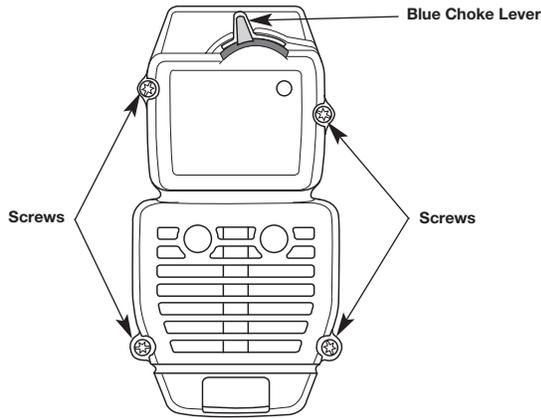

Fig. 35
2. Remove the four (4) screws securing the air filter/muffler cover (Fig. 35). Use a flat blade or T20 Torx bit screwdriver.
2. Insert the four (4) screws into the holes in the air filter/muffler cover (Fig. 35) and tighten.